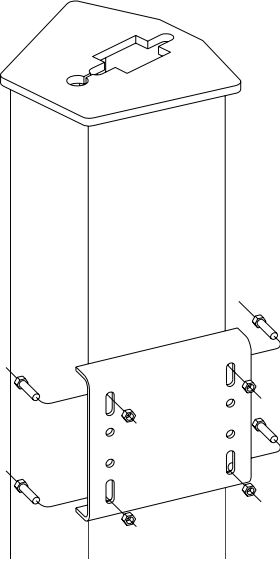

Figure 7
19. Secure four 5/16 x 1-1/4 NC bolts onto the power unit mount bracket with 5/16 hex nuts. See Figure 7.